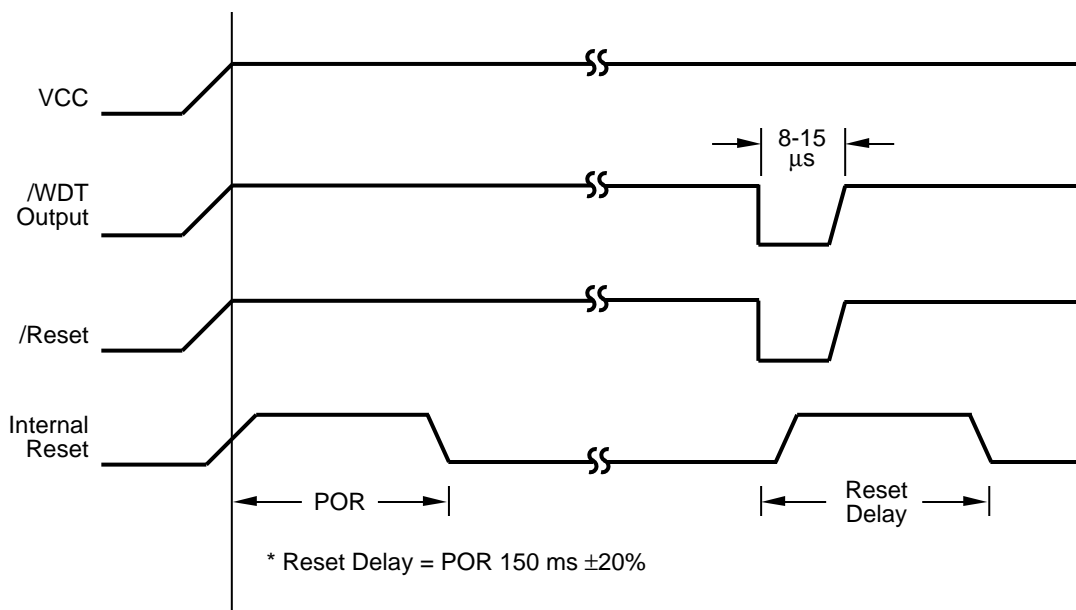

Figure 15. WDT Turn-On Timing After Reset
**Watch-Dog Timer.** The Z08617 is equipped with a hardware Watch-Dog Timer which will be turned on automatically by power-on (Figure 15). The Watch-Dog Timer must be refreshed at least once every 50 ms by executing the instruction WDT (Opcode = %5F), otherwise the Z08617 will reset itself if /WDTOUT pin 9 is connected to /RESET (Pin 6). Figure 16 shows the block diagram of WDT.